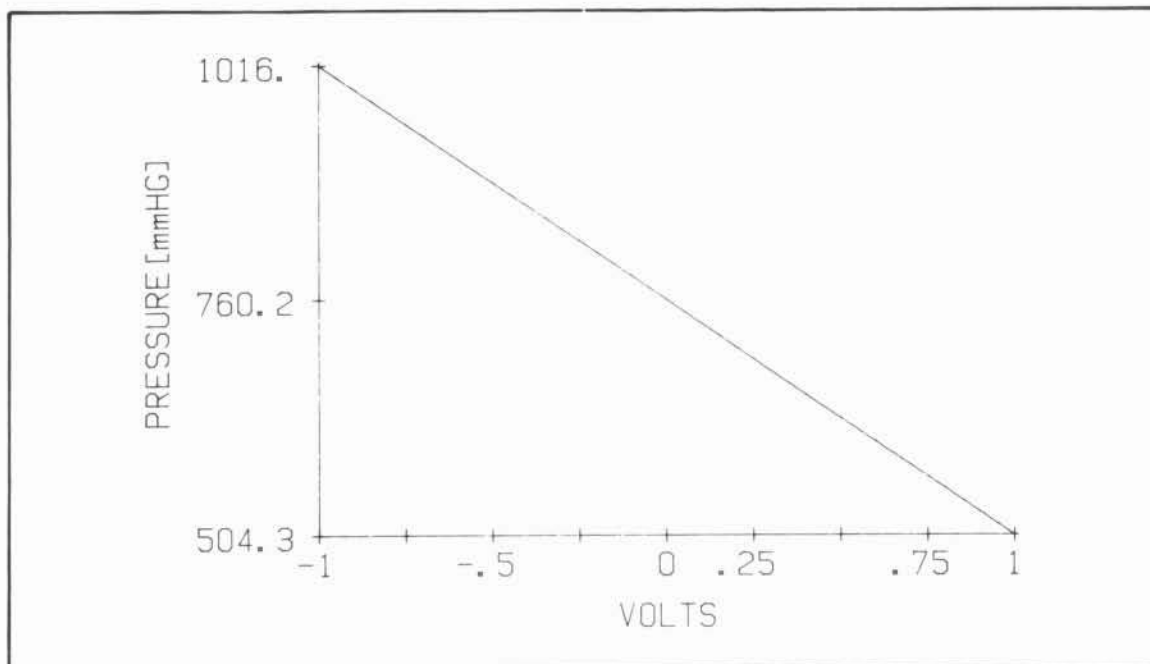

Figure 7-20. Air Pressure Characteristics
U1 amplifies the output of R7 (pin 16) by a factor of two and sums it with the pressure signal from U3 to form AP. This gives a maximum AP offset of $\pm (74.4$ mV $\times 2) = 148.8$ mV. Full-scale output is 0.95 Volts. The resultant adjustment range is nominally $\pm 16\%$. The air pressure characteristics are shown in *Figure 7-20*.
- Check Pressure Transducer output. See Figure 7-20 ("Air Pressure Characteristics"). If improper, replace Pressure Transducer. If OK, replace A2.